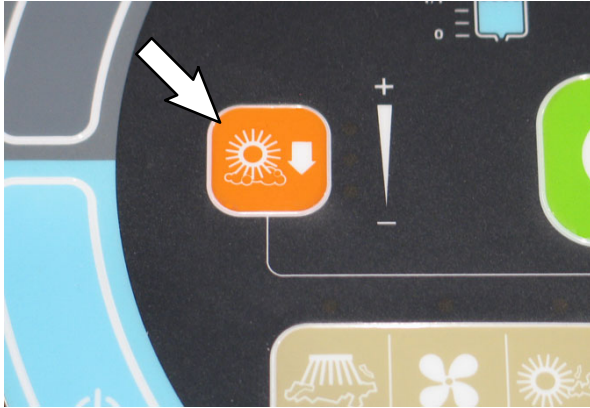

FIG. 28
3. Press the main scrub brush pressure button to enter the CONFIG MODE. (Fig. 28)